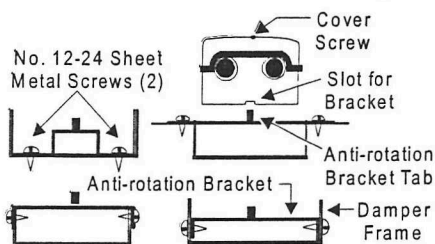

Figure 3: Anti-rotation Bracket Positions
2. Bend or cut the anti-rotation bracket to fit the damper frame or duct as shown in Figure 3.
4. Insert the anti-rotation bracket tab into the slot at the bottom of the actuator (shown in Figure 3), and slide the actuator onto the shaft.